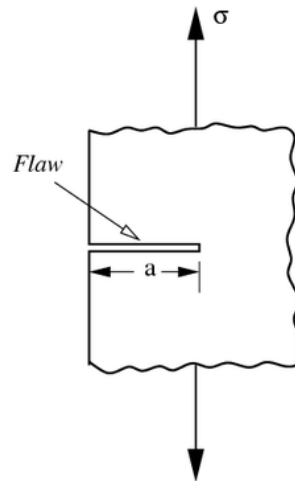

Figure 4
- (b) An edge crack in an infinite width plate has a flaw in the form of an edge crack of length, a , as shown in Figure 4. The geometric factor, $Y = 1.12$, can be used in calculating the Stress Intensity Factor, solution.